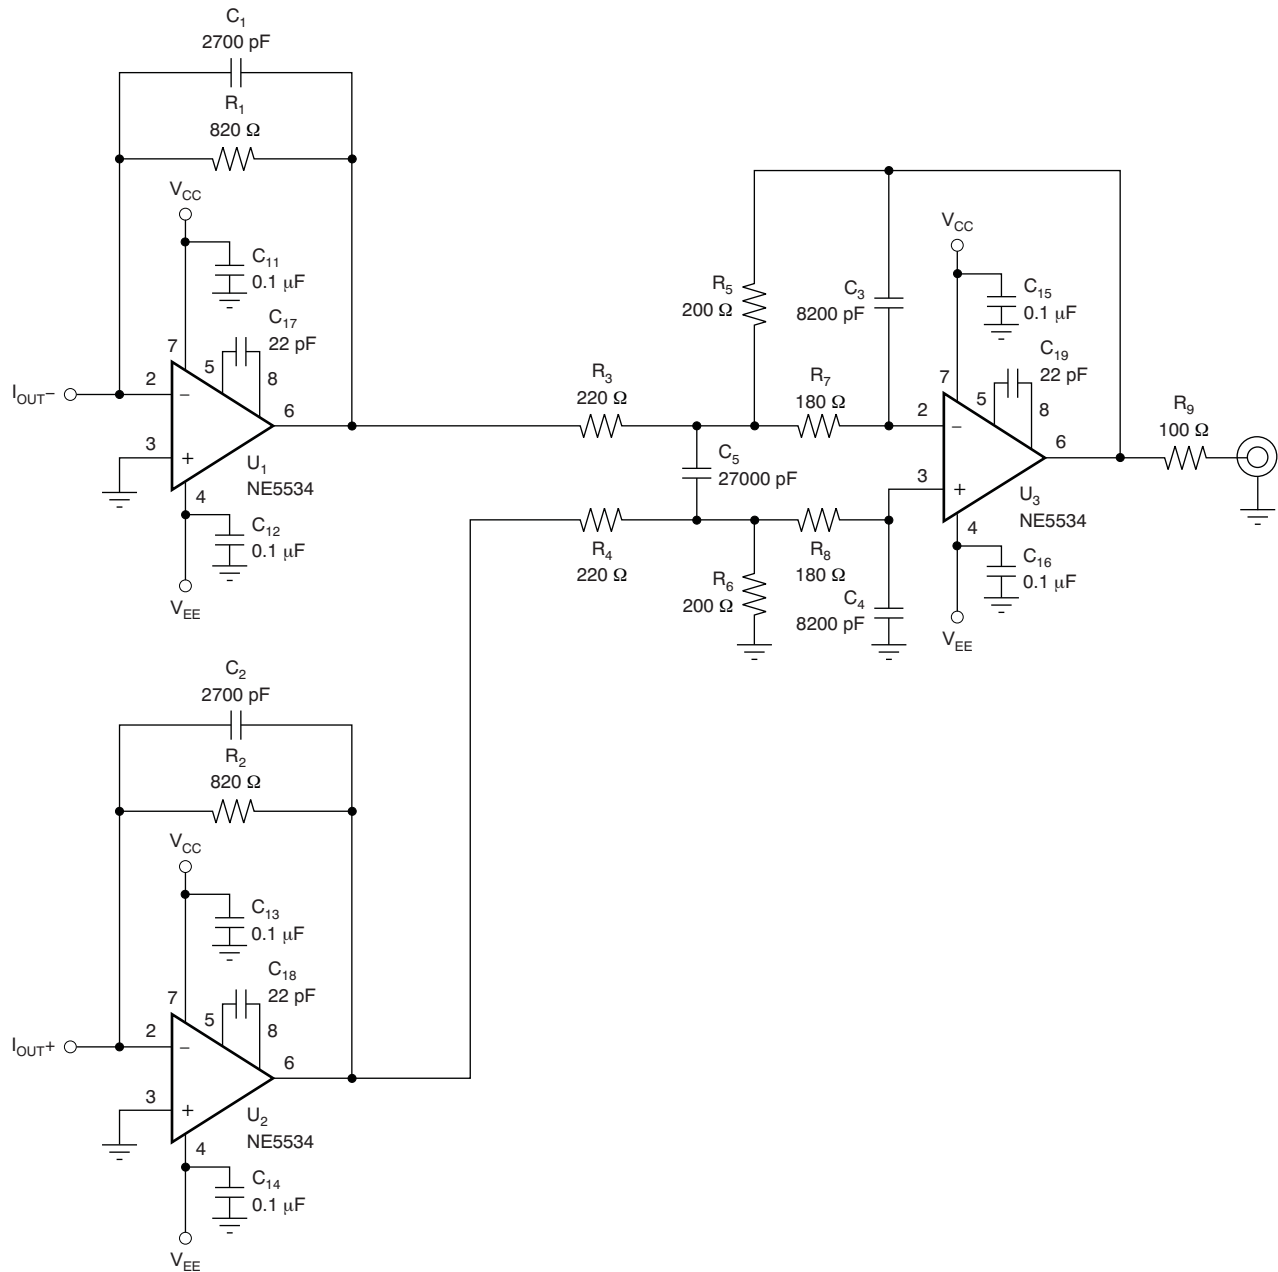

Figure 52. Measurement Circuit for PCM
In the third-order, low-pass filter (LPF) circuit of Figure 52, the output level of 2.1 V RMS and 123-dB signal-to-noise ratio is achieved.
(1) Circuit corresponds to Figure 52.